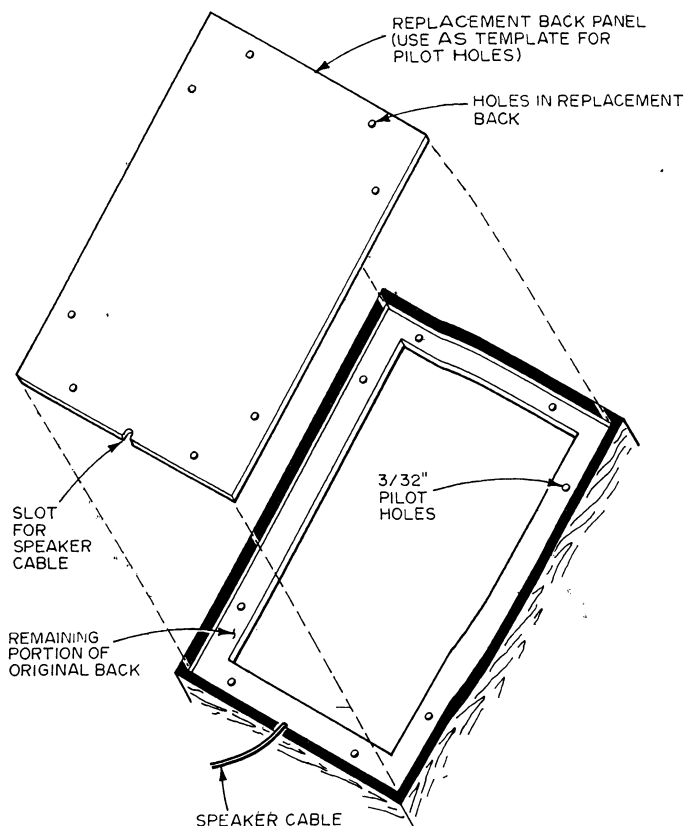

FIGURE 3 – PILOT HOLES
7. Position replacement back panel on that portion of back still remaining (See Figure 3).